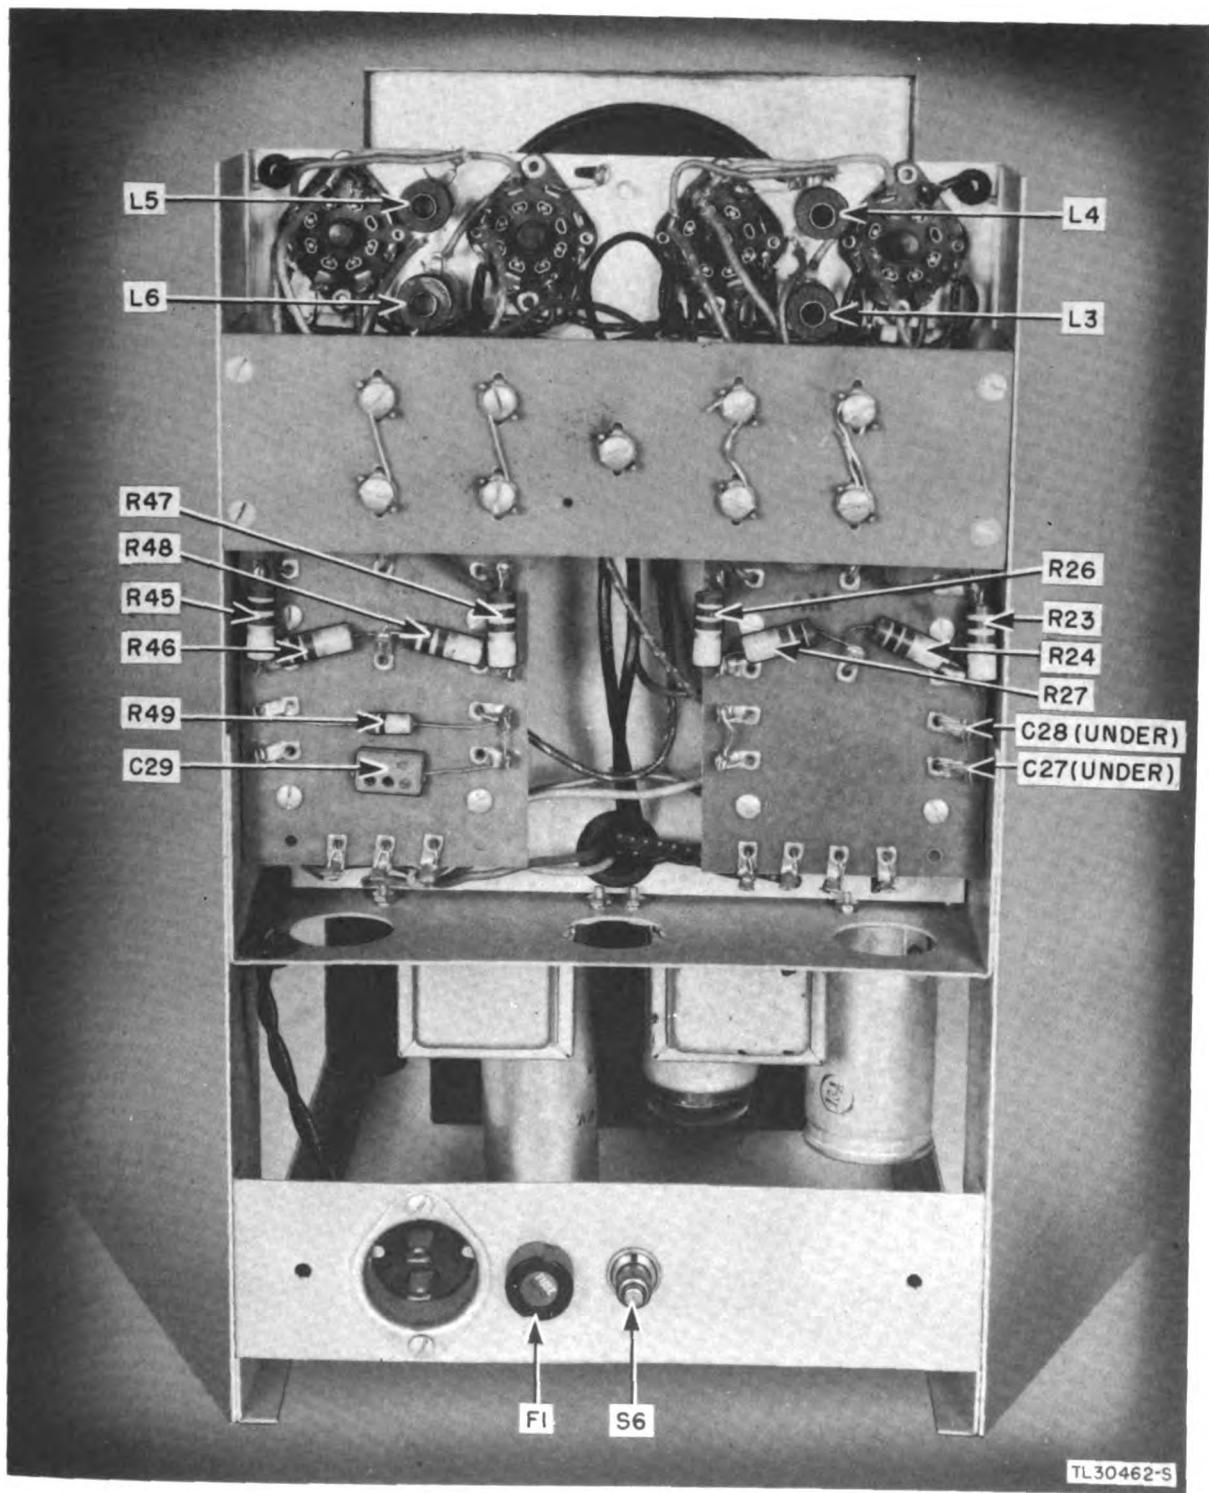

Figure 25. Rear of chassis.
a. **Trouble-shooting Data.** Figures 25, 26, 27, and 28 at the end of this section show the physical location of the components on the chassis. In addition the block diagram (fig. 9), the complete schematic diagram (fig. 24), and the various partial schematic diagrams (figs. 11, 12, 19, 20, 21, and 22) will be helpful in trouble shooting. Figure 24 shows the d-c voltages which should be present at various points in the circuit.
(1) If no spot appears when the oscilloscope is turned on, turn both position controls over their whole range before concluding that no spot is present. Some troubles unbalance the positioning circuits and cause the spot to be deflected clear off the screen. In some cases, however, the range of the position controls may not be sufficient to bring the spot onto the screen.
(2) If no sweep appears on one range setting of the COARSE FREQUENCY control, try all other ranges.
(3) If no sweep appears on any of the fre-
c. Hold the interlock switch S6 (fig. 25) closed manually; after about 30 seconds, measure the voltage between pin 8 on tube V16 and the chassis with a d-c voltmeter.
f. Adjust the coils and attenuator capacitor in the following order for least distortion of the square wave on the screen: C2, L4, L3, L2, L1, (figs. 25 and 27).
h. Turn up the intensity until the return trace is visible on the screen. If this is impossible, disconnect one end of the capacitor C29 from the terminal board on the rear of the chassis (fig. 25).
i. Adjust coils L6 and L5 (figs. 25 and 27) for least distortion at the end of the pattern on the screen where the return trace starts.